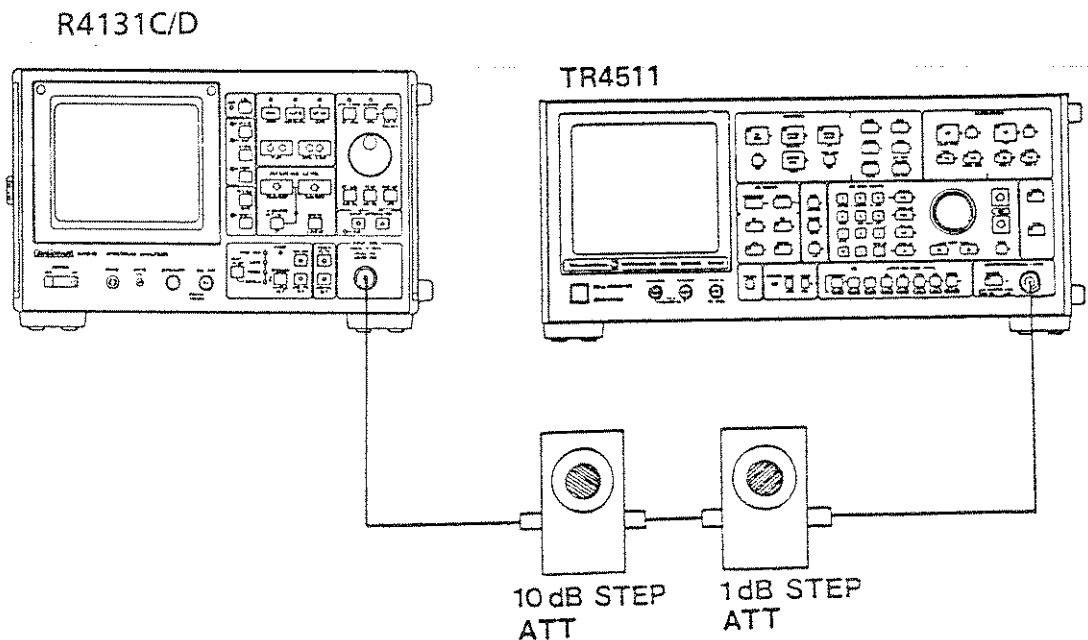

Figure 11-17 Reference Level Accuracy Test Setup
② Set the output frequency of the synthesized signal source to 200 MHz (CW), -10 dBm, and connect the source to the spectrum analyzer INPUT connector using attenuators as shown in Figure 11-17.